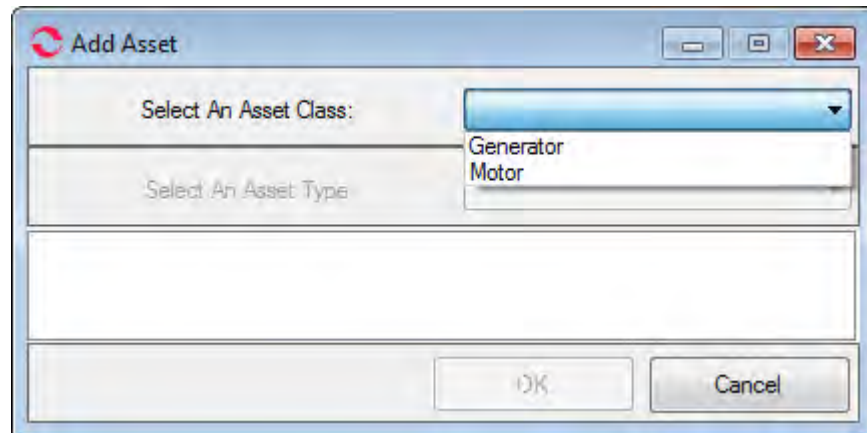

Figure 3-15: Add Asset - Select An Asset Class
3. In the Add Asset window shown in Figure 3-15, use the drop-down menu to select an asset class. Currently the choice is either generator or motor. When the asset class is selected the Select An Asset Type drop-down menu becomes active as shown in Figure 3 - 16. The choices are dependent on the asset class selected. Select an asset type.